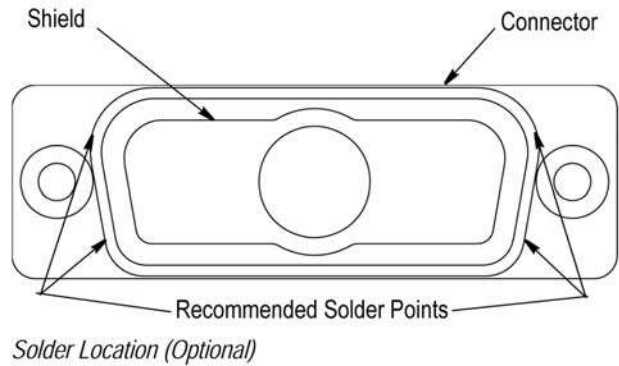

Figure 6
6. Solder the shield to the connector (optional) as shown in Figure 6.